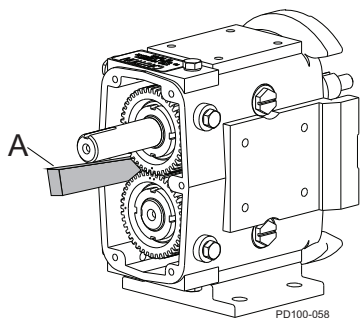

Figure 215 - Block Shaft Rotation
4. Use a wood or nylon block (Figure 215, item A) to keep the shafts from turning. If a block is not available, use rags to block the gears, or with one rotor on the shaft, block the rotor with a nylon dowel.